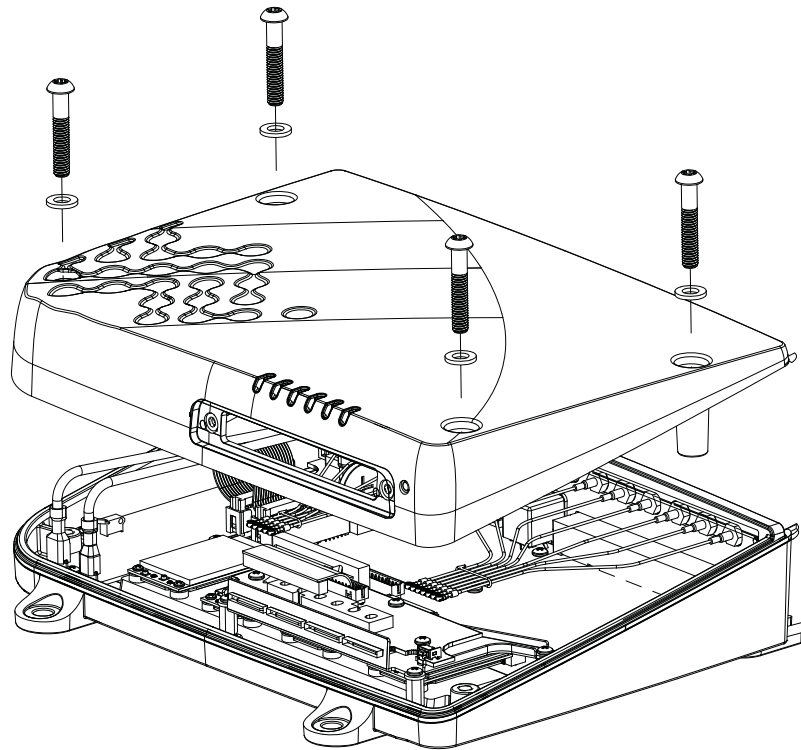

Figure 1: Removing the top enclosure
2. Using a Torx T30 driver, remove the four screws securing the top enclosure, as shown in Figure 1.